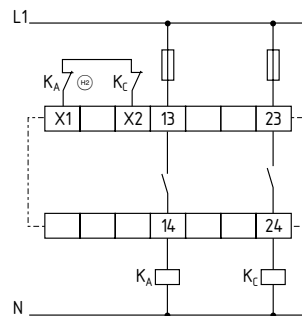

Fig. 12
**Single-channel control with feedback circuit (Fig. 12)**